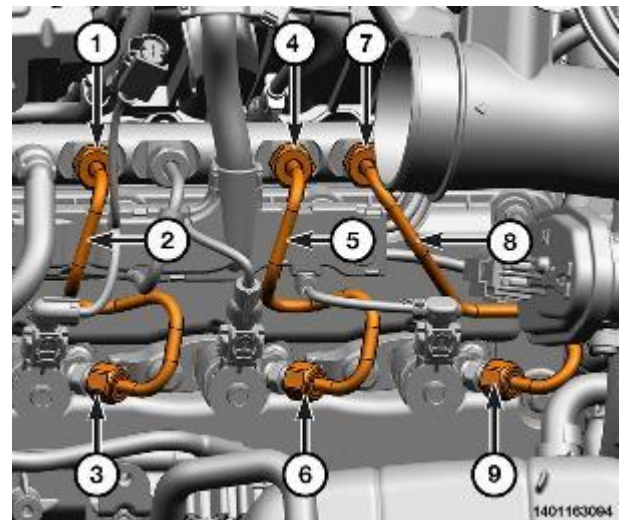

Figure 115 – Fuel Injector Tubes
37. Unscrew the union nuts (1 and 3) and remove cylinder No. 4 fuel tube (2) and discard the fuel tube (Figure 115).
38. Unscrew the union nuts (4 and 6) and remove cylinder No. 5 fuel tube (5) and discard the fuel tube (Figure 115).
39. Unscrew the union nuts (7 and 9) and remove cylinder No. 6 tube (8) and discard the fuel tube (Figure 115).